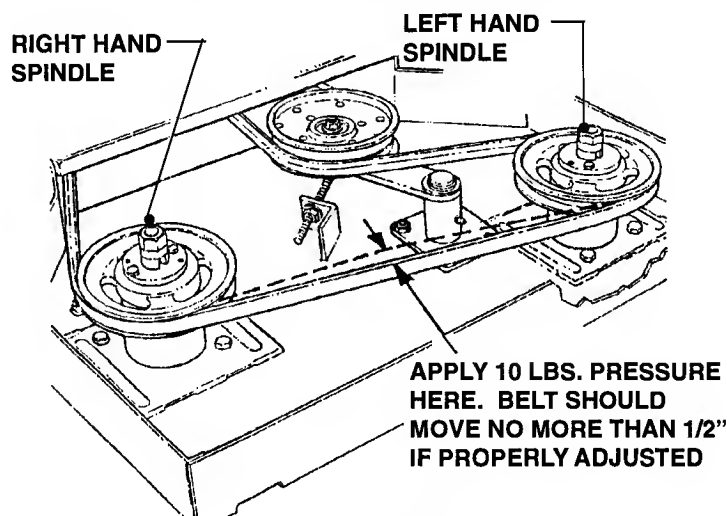

FIGURE 5.28
2. Apply 10 pounds of pressure between the right and left Spindle Pulleys as shown in Figure 5.28. The Belt should move no more than 1/2".